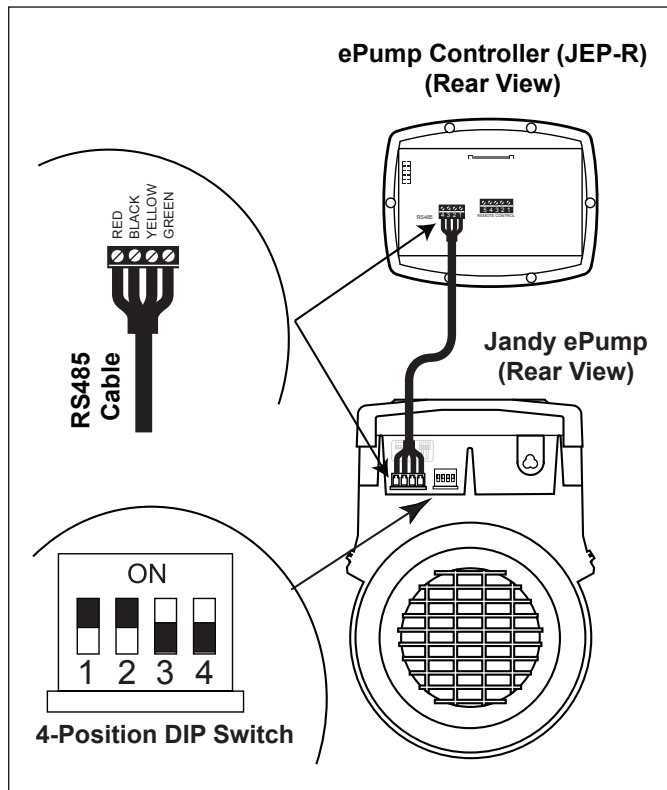

Figure 2. Wiring ePump Controller (JEP-R) to ePump
4. Attach the four (4) wires in the RS-485 cable to the RS-485 connector. Match the wire colors with the positions on the connector: 1- red, 2- black, 3- yellow, and 4- green. See Figure 2.
6. Slide dip switches 1 and 2 up, so they are in the ON position, and slide switches 3 and 4 down, so they are in the OFF position. See Figure 2.
As shown in Figures 2 and 3, the 4-position dip switch is located at the rear of the ePump. This dip switch serves two (2) functions: it selects the pump address, and it determines what type of controller will be used with the pump. The tables below show the dip switch settings.